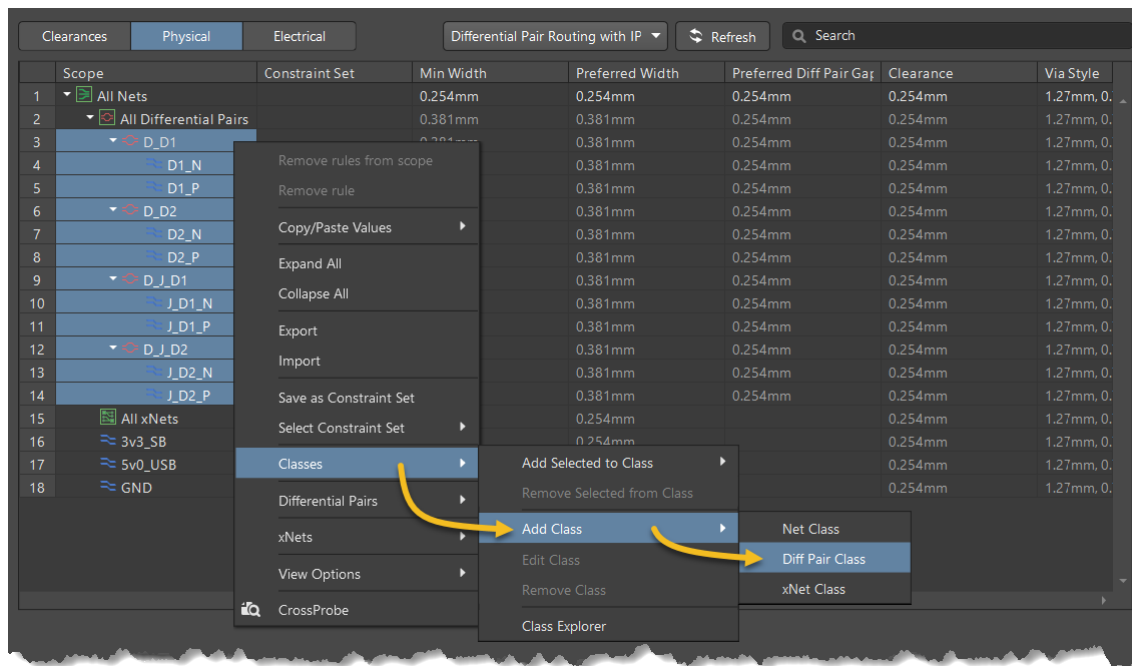

Figure 6. Constraint Manager, Creation of a Differential Pair Class
23. Select the four Differential Pairs and the individual signals, Figure 6.
24. Right-click anywhere in the grid area and select **Classes » Add Class » Diff Pairs Class**, Figure 6. This opens the *Add Class* dialog.